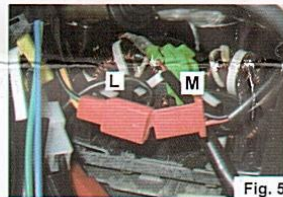
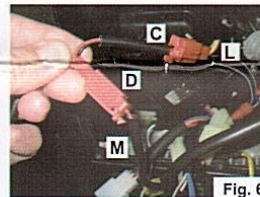

Fig. 5
Fig. 6
5. Disconnect the red power wire that feeds the e-choke (Fig. 5, L & M), and connect both of those connectors to the red jumper wire connectors from the cold start kit (Fig. 6—C connects to L, and D connects to M).